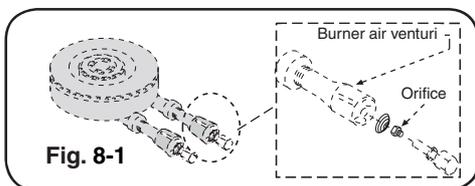

Fig. 8-1
1. After checking orifice size install the air shutter spring and the air shutter over the orifice holder fitting, between the burner and the heat shield, in the order and position shown in Fig. 8-1.